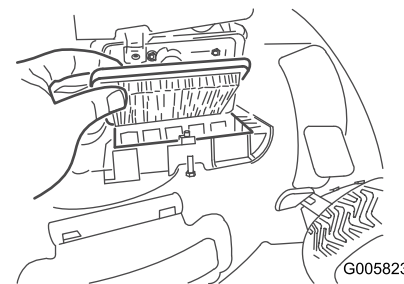

Figure 40
2. Replace the air filter (Figure 40).